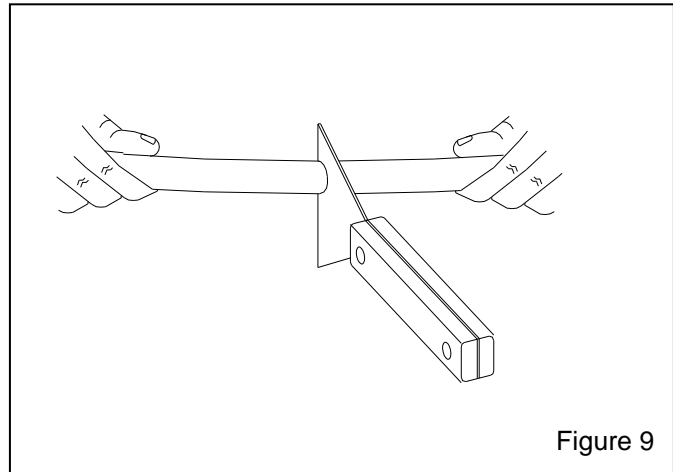

Figure 9
9.4.7.3 Holding each end of the belt place the ends onto the surface of the heated knife, as shown in Figure 9. Hold the ends to the knife blade until both ends are thoroughly softened, making sure melted material appears around the entire perimeter of both ends.